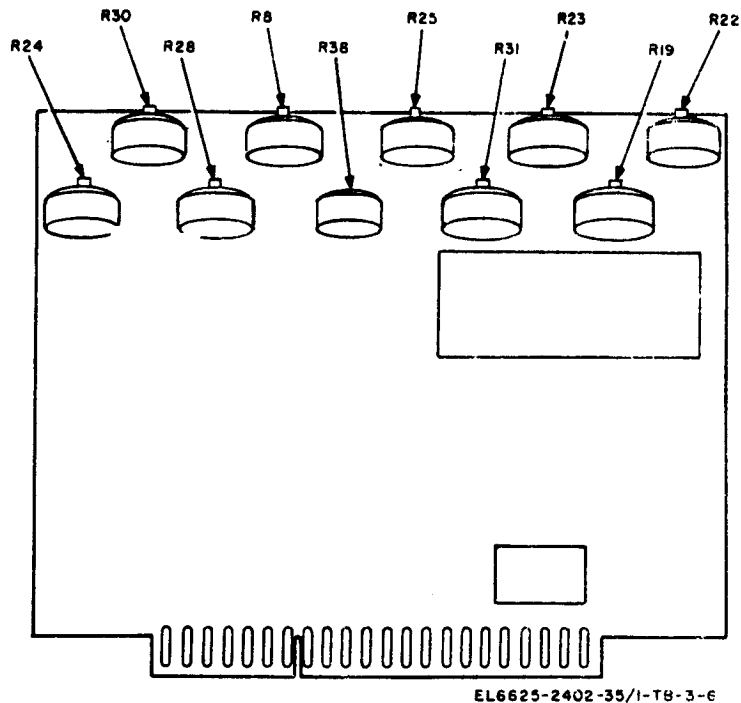

Figure 3-6. Component assembly A2.
(1) Repeat performance check steps (1) through (3).
(2) Adjust UUT STOP HF R24 (fig. 3-6) for multimeter indication of 73.0 vdc.
(3) Press UUT FUNCTION MARKER SWEEP pushbutton.
(4) Adjust UUT MARKER STOP HF R30 (fig. 3-6) for multimeter indication of 73.0 vdc.
(5) Set UUT SWEEP SELECTOR switch to Cw.
(6) Adjust UUT MARK START HF R22 (fig. 3-6) for multimeter indication of 73.0 vdc.
(7) Press UUT FUNCTION Δ F pushbutton.
(8) Adjust UUT Δ F CW R19 (fig. 3-6) for multimeter indication of 73.0 vdc.
(9) Press UUT FUNCTION EXT FM pushbutton Allow 3 minutes for circuit to stabilize.
(10) Adjust UUT EXT FM ZERO R38 (fig. 3-6) for multimeter indication of 73.0 vdc.
(11) Repeat performance check.
(1) Repeat performance check steps (1) and (2).
(2) Adjust UUT MARK 1 HF R23 (fig. 3-6) for maximum dc deflection on oscilloscope.
(3) Repeat performance check step (4)
(4) Adjust UUT MARK 2 HF R31 (fig. 3-6) for maximum dc deflection on oscilloscope.
(5) Repeat performance check.
(2) Set calibrator FUNCTION SELECTOR switch to SWP REF AM. Record multimeter indication.
(3) Turn UUT MANUAL SWEEP control fully clockwise. Record multimeter indication.
(4) Difference in recorded multimeter indications is between 6.8 and 7.2 vdc,
b. *Adjustments.* Adjust UUT ΔF BW AD - JUST R25 (fig. 3-6) for 7.0 vdc difference in multimeter indications as UUT MANUAL SWEEP control is turned from one limit to the other.
(2) Set calibrator FUNCTION SELECTOR switch to SWP REF AM.
(3) Adjust UUT MANUAL SWEEP control for multimeter indication of 38.0 vdc.
(4) Press UUT FUNCTION AF pushbutton. Multimeter indicates between 2.9 and 3.1 vdc.
b. *Adjustments.* Adjust UUT ΔF CENT R28 (fig. 3-6) for multimeter indication of 3.0 vdc.
(3) Slowly turn UUT MANUAL SWEEP control from fully counterclockwise to fully clockwise. Multimeter indicates between 2.9 and 3.1 vdc throughout range of MANUAL SWEEP control.
b. *Adjustments.* Adjust UUT ΔF ZERO R8 (fig. 3-6) for multimeter indication of 3.0 vdc throughout range of MANUAL SWEEP control.